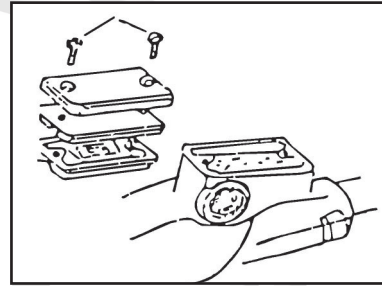

Fig. 4
- Check the brakes for excessive wear. The middle groove of the brake should still be visible. If it isn't, the pads should be replaced. *See Fig. 4.*